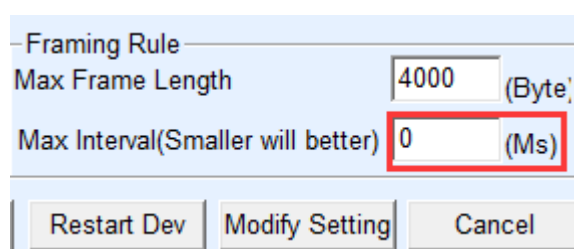

Figure 10 Reduces Packet Interval
- 4) As shown in figure 10, if you need to speed up the corresponding speed of the round-trip data packet, change the packet interval to 0, so that the speed of the serial port can be speeded up. After setting, click "Modify Settings". However, after this modification, the function of the serial port configuration parameter will be disabled, so it is suggested that the user can be configured with the Ethernet port to follow this setting method.